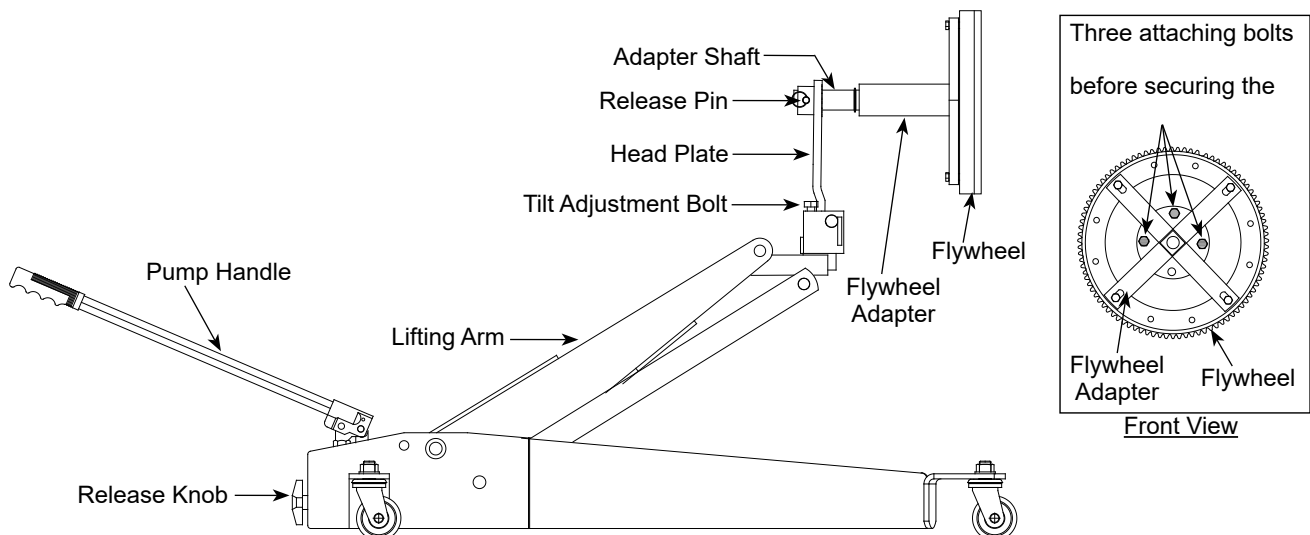

Figure 4 - Flywheel Adapter Operational Illustration
Clutch Handler is designed for clutch/ removal and installation. Intended use: to remove, install and transport (in lowest position) both 14" and 15-1/2" clutches and The two most common spline sizes, 1-3/4" and 2" diameter, are included with this product. The head plate enables clutch to be positioned in either horizontal position for clearing underneath vehicle or vertical position for installation and removal. The spline sleeve rotates 360 degrees, turns side to side and vertically tilts for precise clutch alignment. Model 40501 is designed to be used in conjunction with Omega Clutch handler, 40500 only. Refer to Figure 4 to ensure all parts are included before use.
1. Remove all the attaching bolts to crankshaft bolts) except for the three bolts pointed in Figure 4.
2. Install the wheel adapter as shown in Fig. 4. Close the release valve knob fully. Pump the handle to raise the lifting arm and align the adapter to the
1. Close release valve knob, pump the handle and raise the into position shown in Figure 4 for installation. Adjust the using tilt adjustment